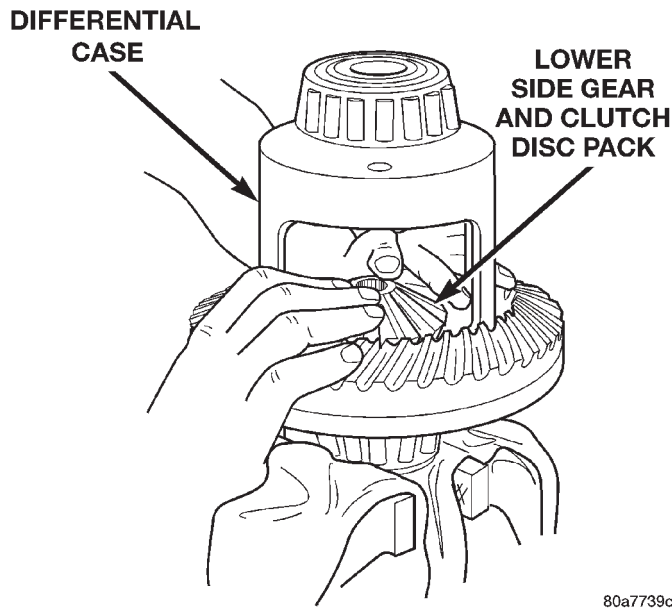

Fig. 55 Clutch Discs & Lower Side Gear Installation
(2) Position assembled clutch disc packs on the side gear hubs.
(3) Install clutch pack and side gear in the ring gear side of the differential case (Fig. 55). **Be sure clutch pack retaining clips remain in position and are seated in the case pockets.**